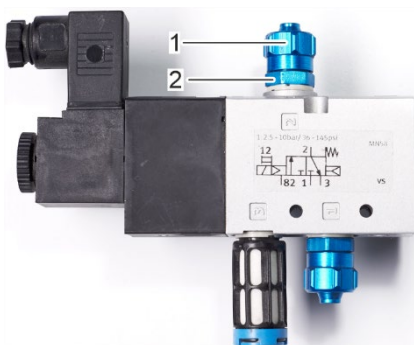

Fig. 63: Loosen union nut on connection 2
6. Loosen the union nut (Fig. 63/1) from the screw-in stud (Fig. 63/2) on connection 2 of the 3/2-way solenoid valve.